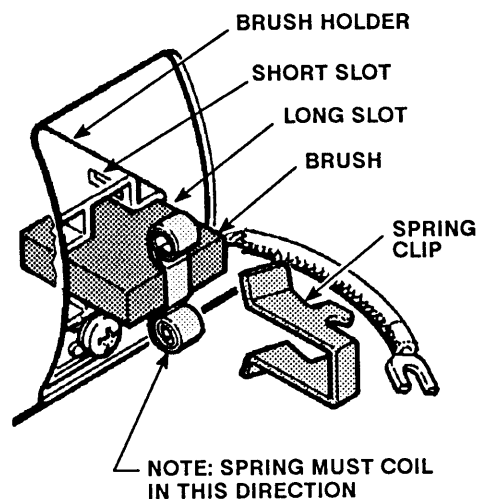

Fig 10
5. Install the new brush so its lead is in the long slot of the holder. Slide the terminal under the terminal screw washer. Make sure the motor lead is still connected to the screw. Tighten the screw. See Fig 10.
6. Place the spring on the brush as shown in Fig 10.
7. Push in and hook the spring clip. See Fig 10.